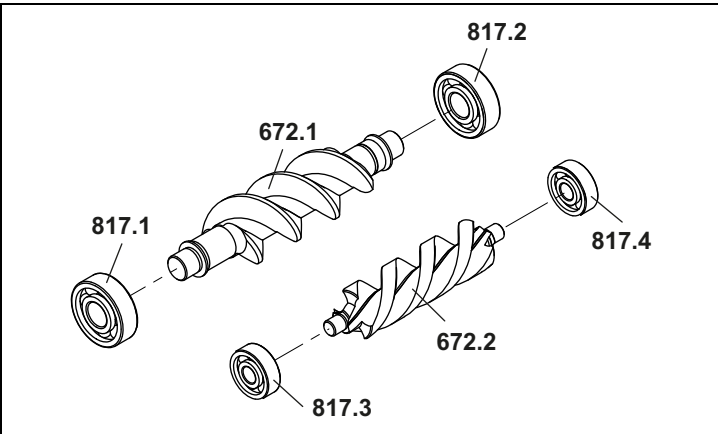

Fig. 4
3. Pull the ball bearings **817.1**, **817.2**, **817.3** and **817.4** off the measuring screws, using a pull-off device to do so. Overview see Fig. 4, page 26.